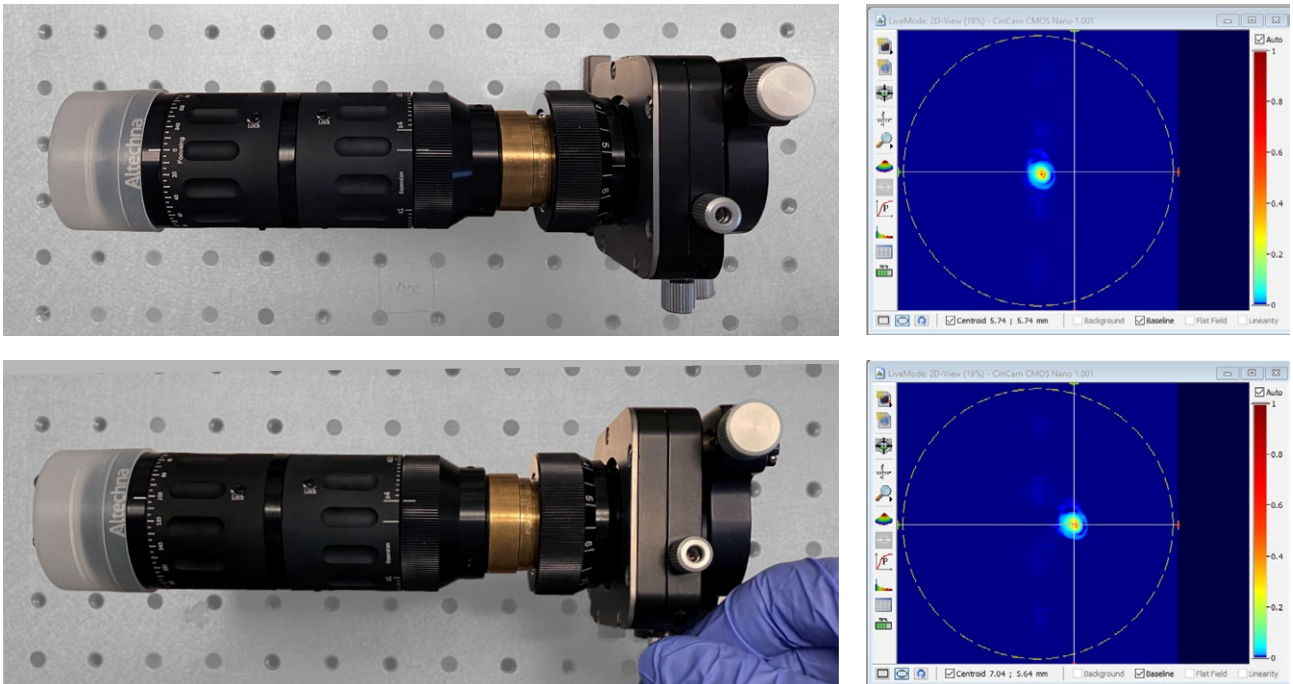

Figure 19. Centering laser beam spot with crosshair.
11. The laser beam spot will be moved from the crosshair again. By adjusting tilt ($\theta_x; \theta_y$) get the laser beam spot back to the crosshair (fig. 19):